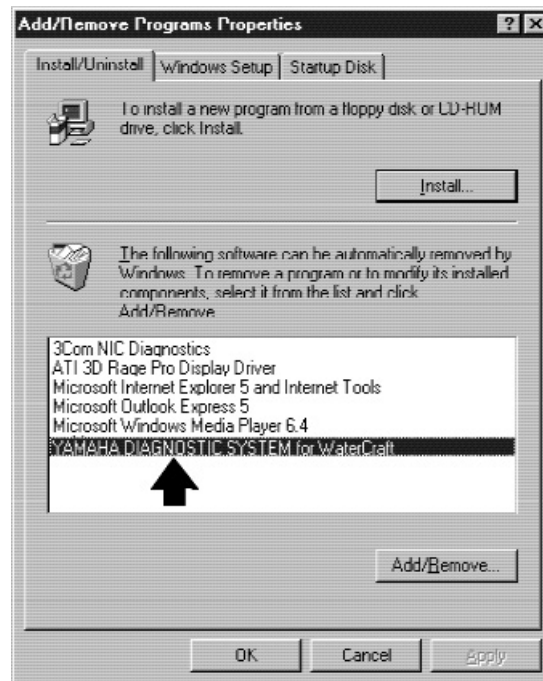

Fig. 67
4. Select **YAMAHA DIAGNOSTIC SYSTEM for WaterCraft** for **WaterCraft** and click the **Add/Remove** button (Fig. 67).